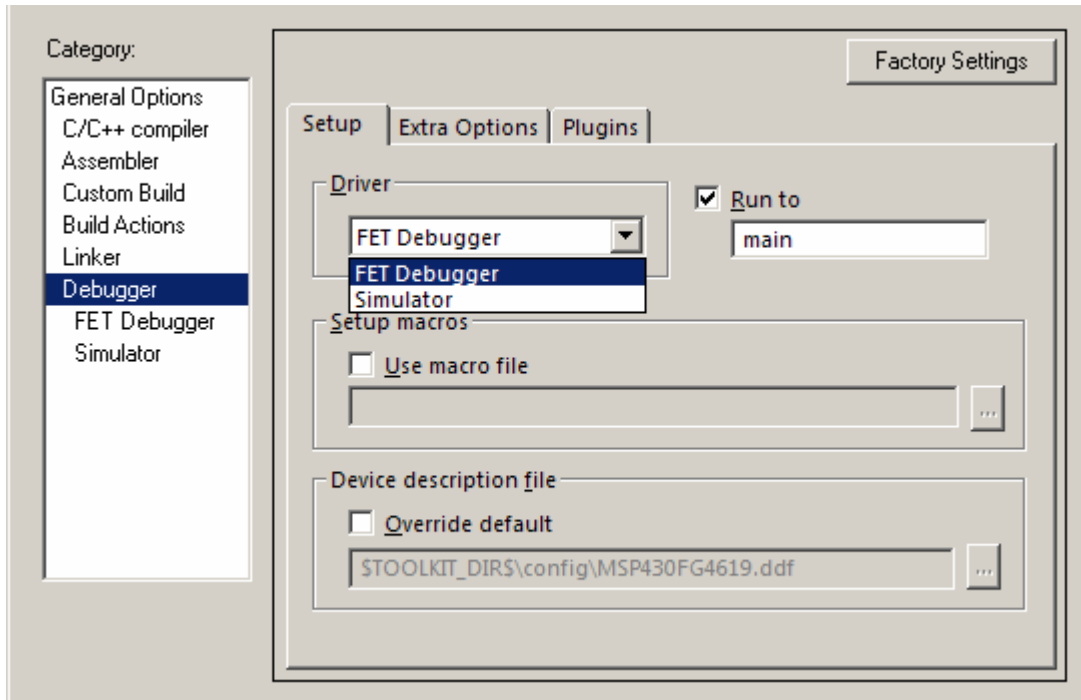

Figure A-2: Selecting the FET Debugger
4. From the same menu under the **Debugger** option, select the **FET Debugger** shown as a snapshot in Figure A-2.
4. From the same menu under the **Debugger** option select the **FET Debugger** shown as a snapshot in Figure A-2.